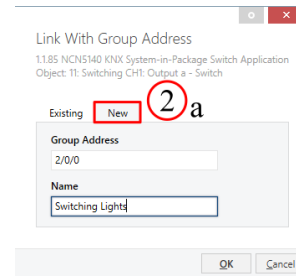

Figure 28. Linking the Group Object with a Group Address
To assign a new group address to the switching object, right click on it ⑳ and select *Link With...* ①a. This will open a new window as shown in figure 28.